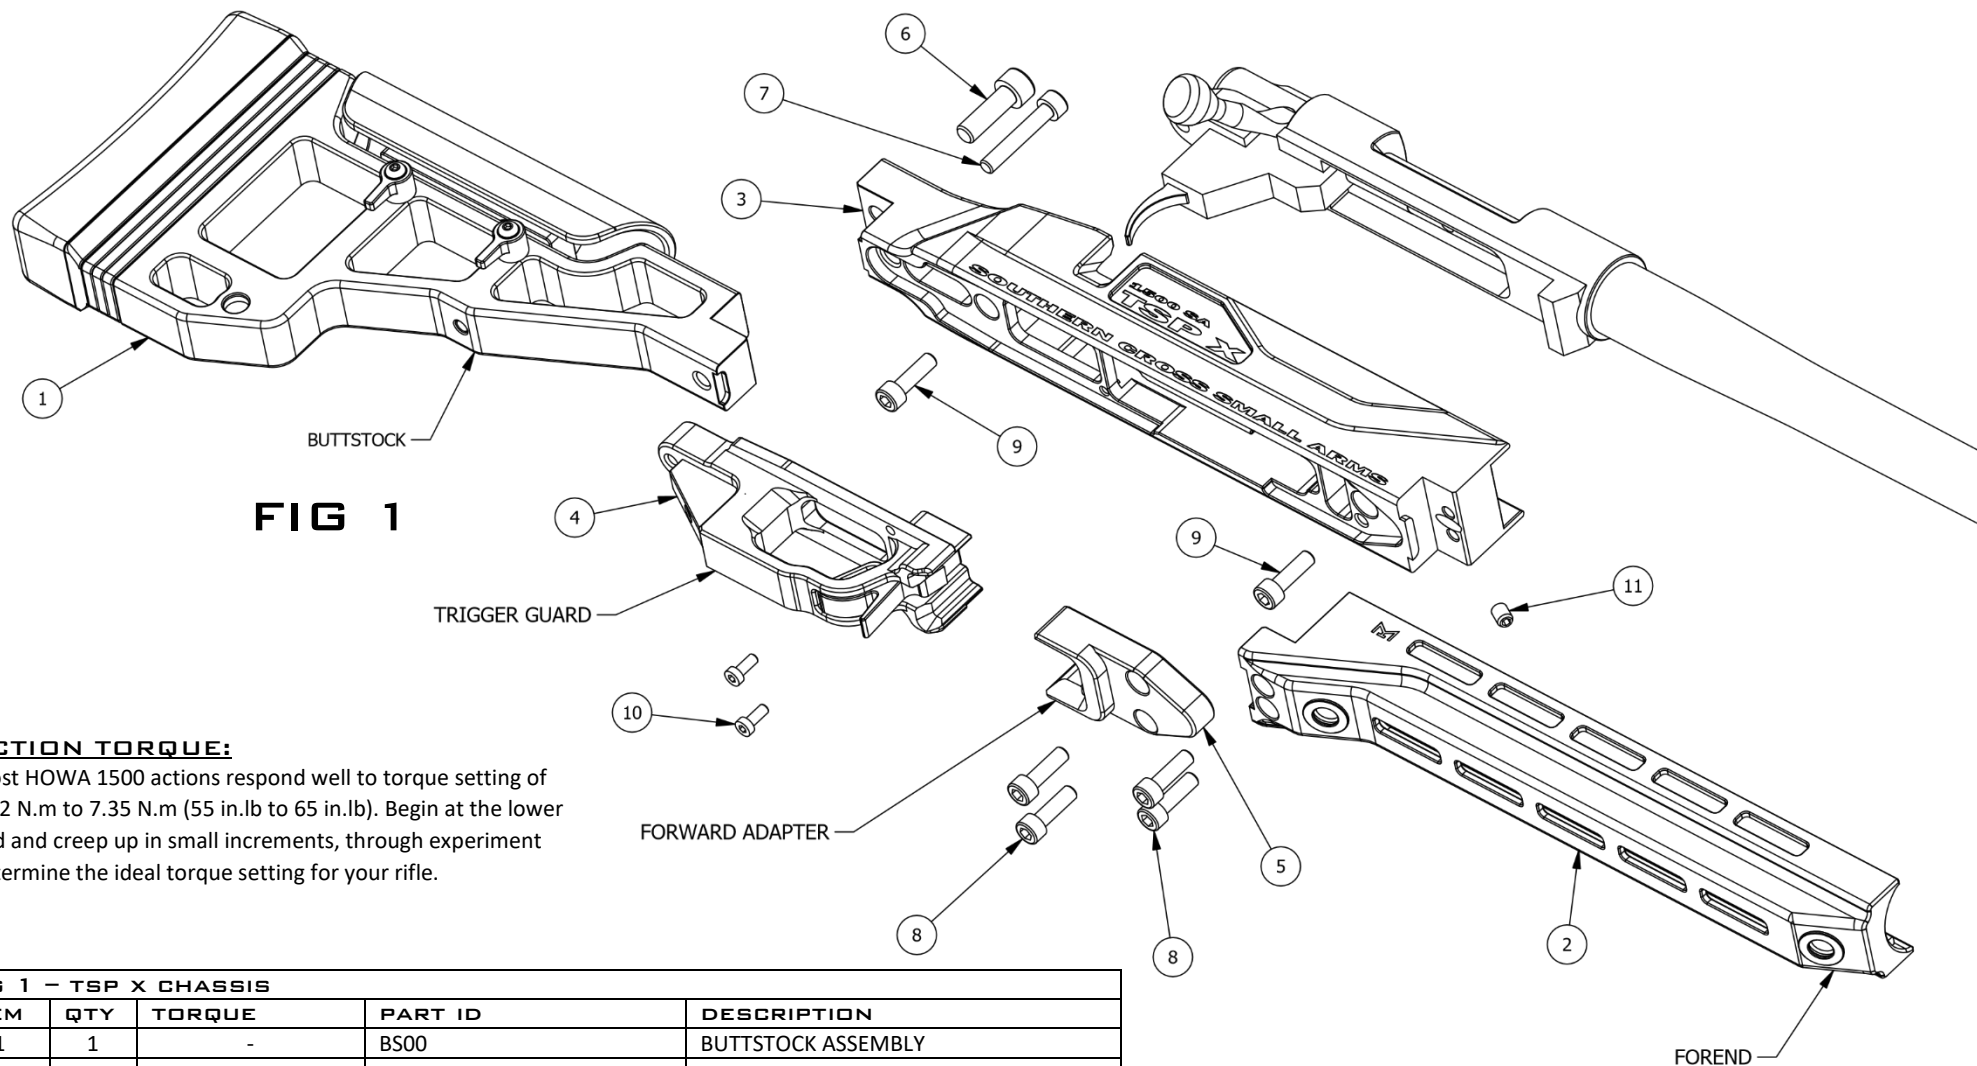

FIG 1
1. Clamp recoil lug after step 3 (fig 1 pg. 2)
| FIG 1 - TSP X CHASSIS | | | | |